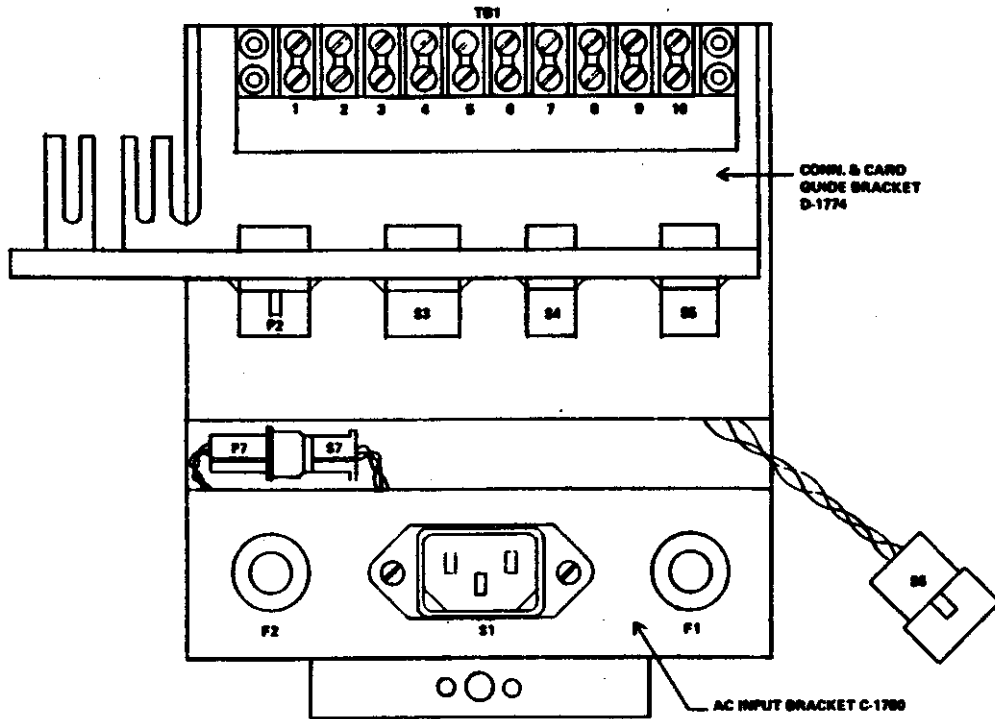

Figure 6 - Transformer Assembly
1. Transformer assembly. (Figure 6)